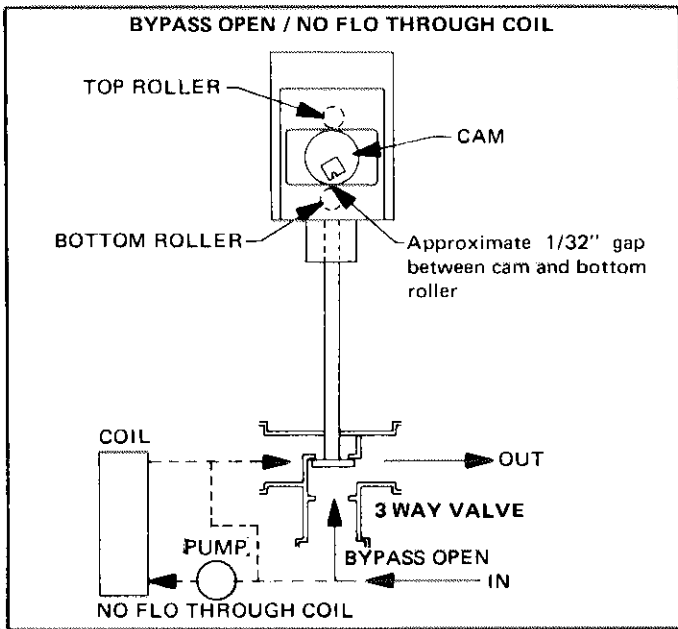

FIGURE 55
- 2 - Remove wire from terminal #1 on A7 to valve motor. Put jumper across C and F terminals on motor. Motor should rotate clockwise lifting valve stem. Refer to Figure 55.